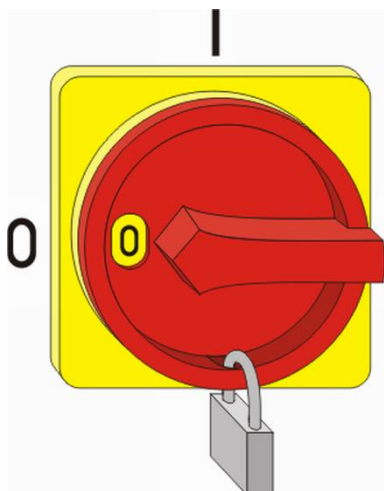

Fig. 48: Secure main switch
2. Secure against restarting by using a padlock (Fig. 48).